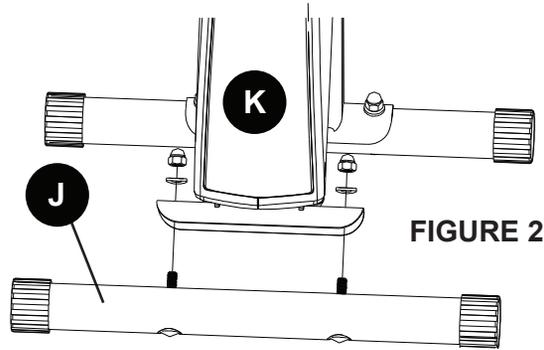

FIGURE 2
Step 2: Install the Front Stabilizer (J) to the Main Frame (K). Be sure to tighten it securely. **Figure 2**